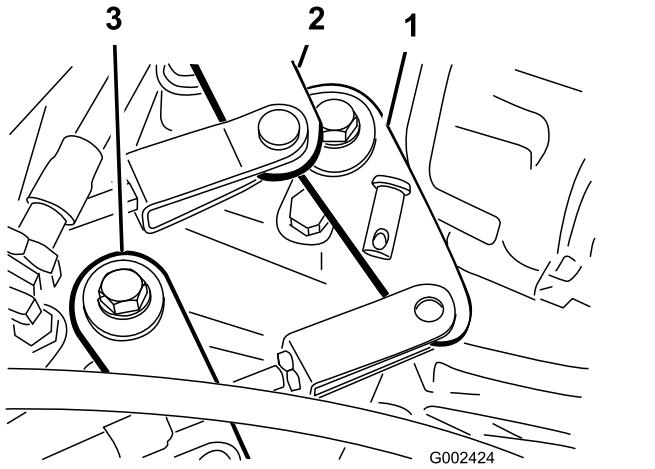

Figure 53
2. Remove the clevis pins securing the shift cables to the transaxle-shift arms (Figure 53).
1. Remove the clevis pin securing the High-Low cable to the transaxle (Figure 53).